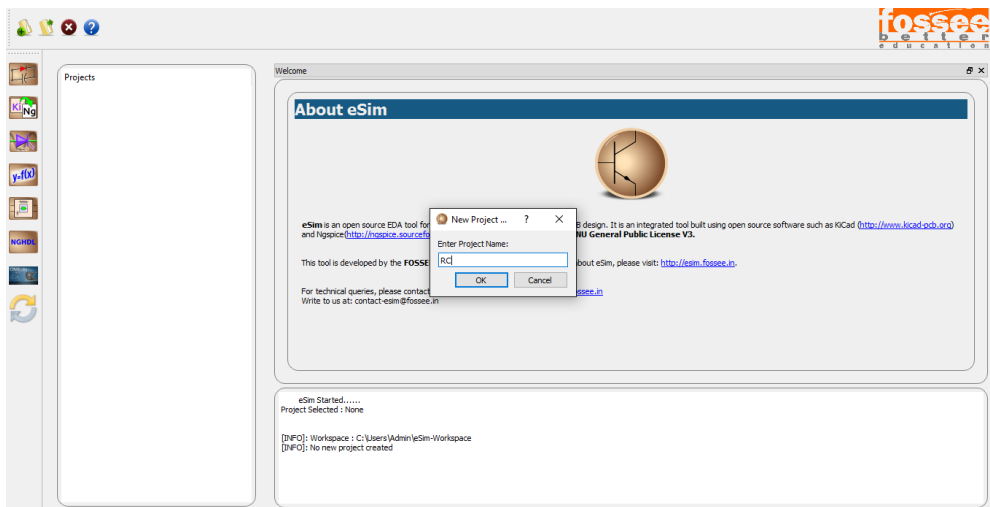

Figure 11.1: Creating New Project
- Creating a Project: The new project is created by clicking the **New** icon on the menubar. The name of the project is given in the pop up window as shown in Fig. 11.1.
The new project is created by clicking the **New** icon on the menubar. The name of the project is given in the window shown in Fig. 11.1.